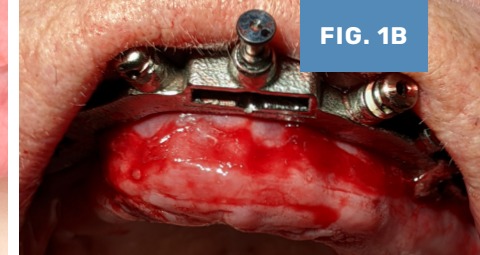

FIG. 1B
*Edentulous only:* Keep the palatal portion of the ridge intact until after the Fixation Base is pinned in step 4. **(FIG. 1B-C)**